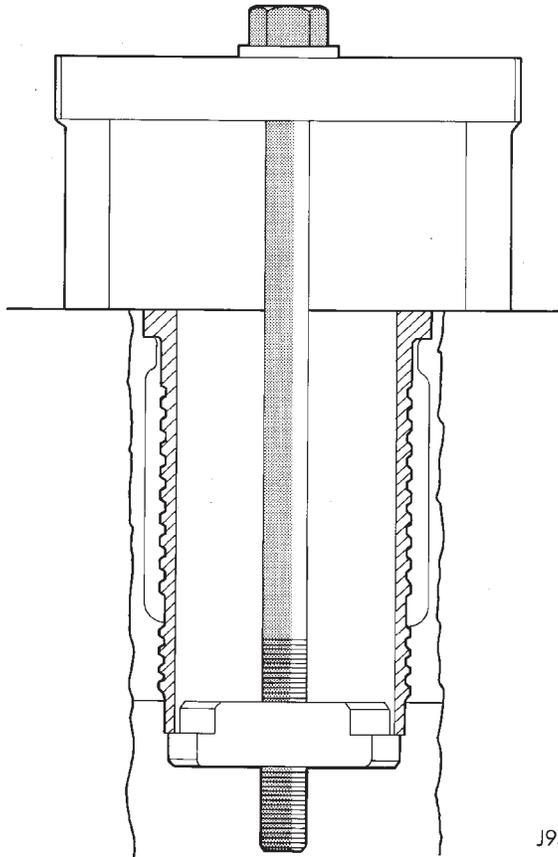

Fig. 82 Cylinder Liner—Removal
(1) Remove cylinder heads (refer to cylinder head removal in this section).
(2) Remove Oil pan (refer to oil pan removal in this section).
(3) Remove pistons (refer to piston removal in this section).
(4) Use tool VM-1001 to remove liners (Fig. 82).
(5) Remove shims from cylinder liner or cylinder block recess. Keep shims with each cylinder liner.